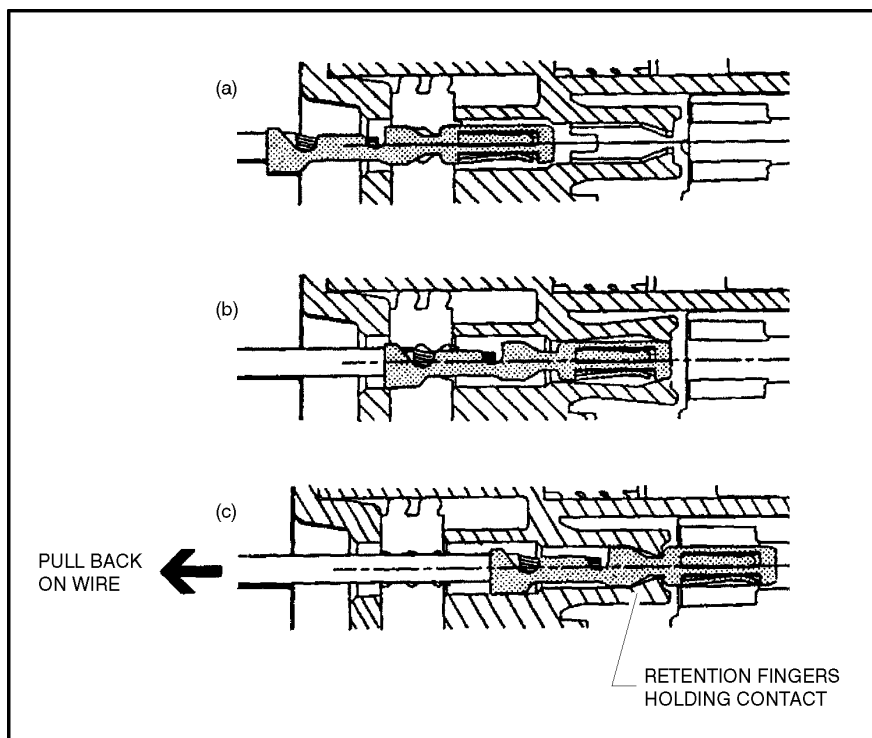

Figure 7-8. Connector Assembly Figure 2
1. To insert a contact, push it straight into the appropriate circuit cavity as far as it will go (See Figure 7-8.).
2. Pull back on the contact wire with a force of 1 or 2 lbs. to be sure the retention fingers are holding the contact (See Figure 7-8.).